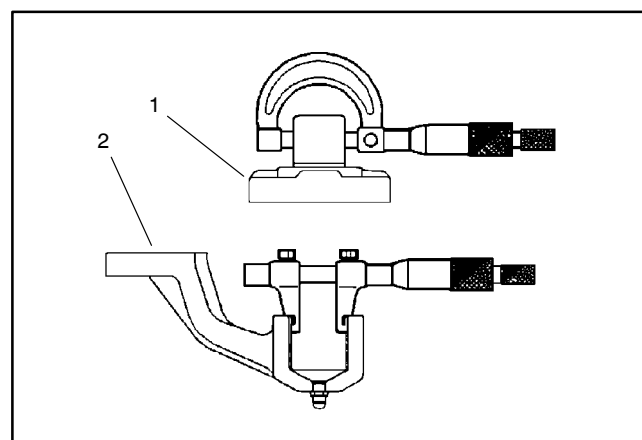

Figure 7
1. Measure the knuckle pin O.D. and the axle case support bushing I.D. to determine the bushing to pin clearance (Fig. 7). Replace components as necessary.